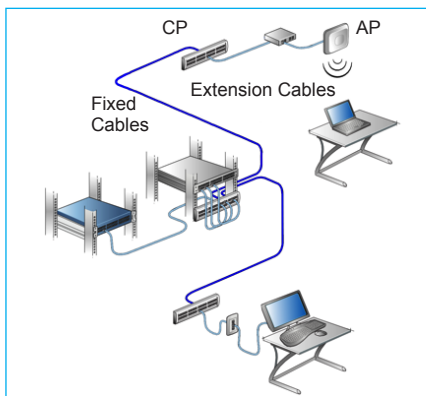

Figure 11: Using consolidation points for zone cabling distribution
The zone distribution model, shown in Figure 11, uses cable runs from the equipment room to specific "building zones." A consolidation point (CP) within each zone allows fixed cabling to be installed up the CP; drop cabling then runs from the CP to the TO for each access point. This approach provides additional flexibility in cabling from the CP to the first TO in each cell, as well as providing spare capacity for additional TOs as needed. This strategy is helpful during retrofit installations, where well-placed consolidation points allow long runs of cabling bundles from the telecommunications room to be fixed into difficult pathways. Once the fixed cabling is in place, installers have more flexibility in running and changing extension cable from the CP to the TO serving the access points and other intelligent building equipment.